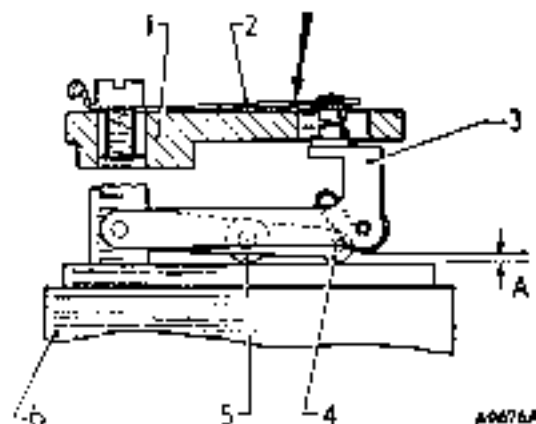

Fig. Da.5
- (27) Check the gap between the points indirectly by carefully holding the contact blade against the rib on the pedestal without pressing against the tip. Then check if a $.030$ in. (.8 mm.) feeler will pass between the roller and the face of the coil housing (A) (Fig. Da.5). If necessary, the tip of the blade can be set to correct the gap.